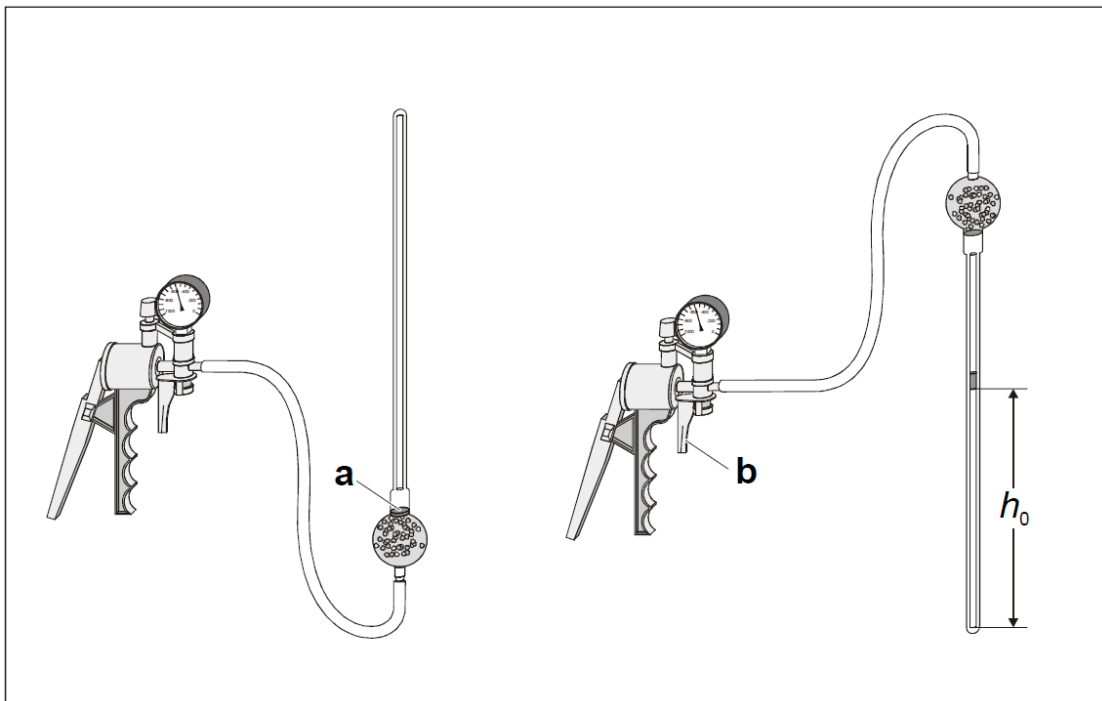

Fig. 23.2. Collecting the mercury globules and adjusting the initial gas volume V_0
- Connect the hand vacuum pump to the gas thermometer, and hold the thermometer so that its opening is directed downward (Fig. 23.2).